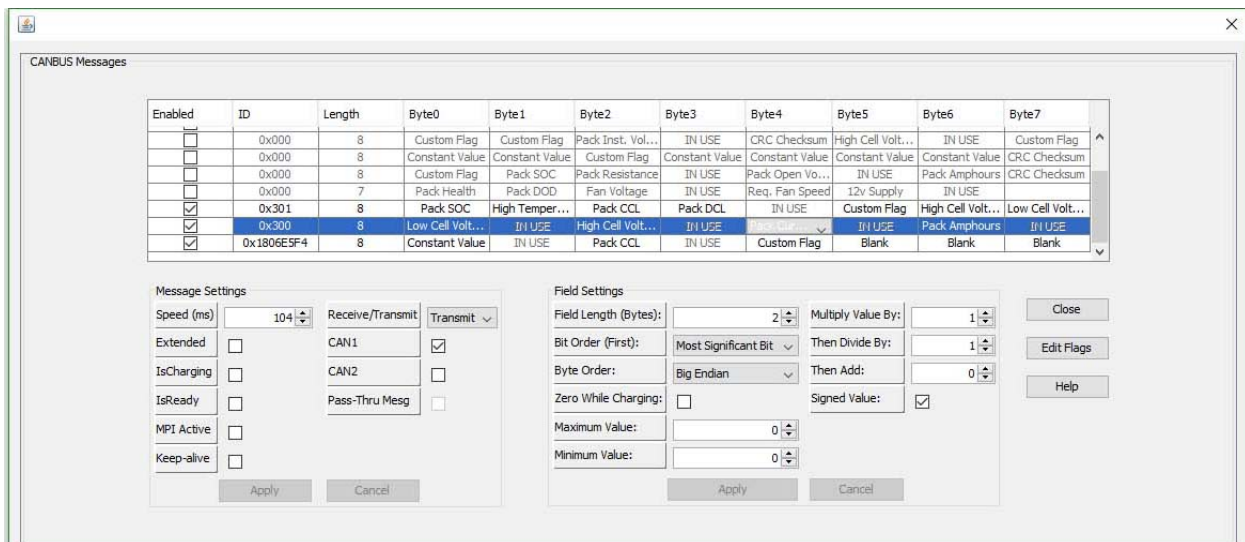

Fig. 14
10. Make sure that the Message and Field Settings for **Pack Current** are the same as in (Fig 14).